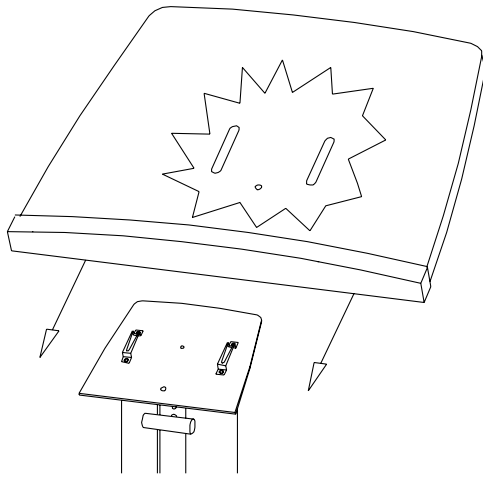

FIGURE 3
Position the wood top so that the obounds (underneath top) fit over the clips on the plate. Then slide the top down onto the clips so that the pins located in the obounds are **SECURELY** locked in the clips (**Figure 3**). From underneath insert screw (CC) to secure the plate and wood top for added safety (**Figure 4**).